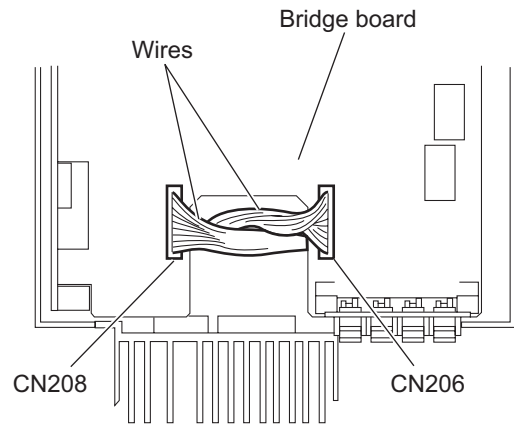

Fig.15
3.1.7 Removing the main amplifier board/subwoofer amplifier boards (See Figs.15 to 17)
- (1) From the top side of the main body, disconnect the wires from the connector (CN206, CN208) on the bridge board. (See Fig.15.)